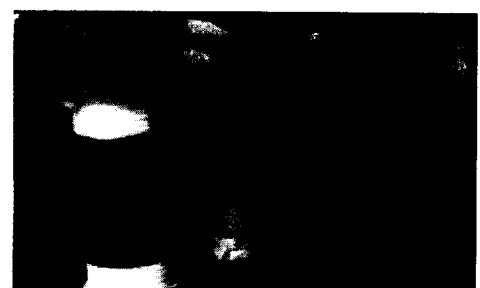

Figure 6 – Wiring the Female Connector
8. Connect the red wire with the female connector from the Low Water Cut-Off Relay to the Low Water Cut-Off Switch. See Figure 6.